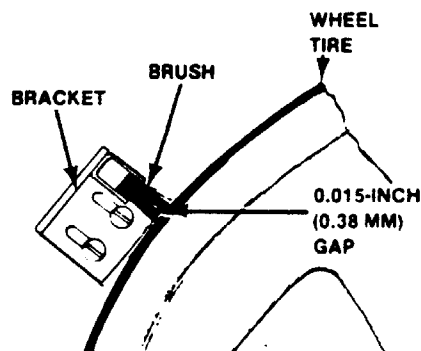

FIG. 18. WHEEL BRUSH POSITION ON LOWER WHEEL.
- (1) Check lower wheel brush occasionally. If worn, or gap between brush and wheel tire is greater than 0.015-inch (0.38 mm), loosen bracket screws and move brush closer to wheel.
- (2) Replace brush as required. See Fig. 18.